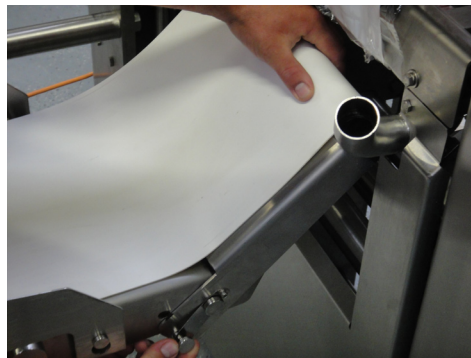

Figure 13.1
13.1 Removing Exit Conveyor Belt (Figure 13.1)